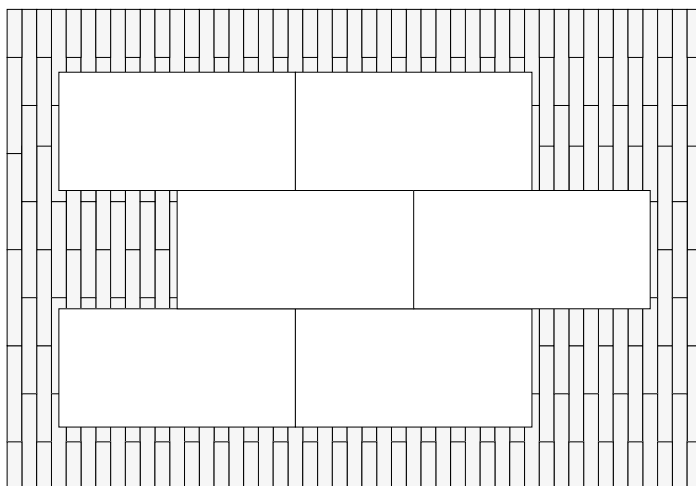

Figure 1:
2. Loose-lay the boards first, ensuring the seams are staggered (see figure 1 opposite). Where possible, always have the factory-cut edges facing each other, and the edges you have cut yourself should face the wall.